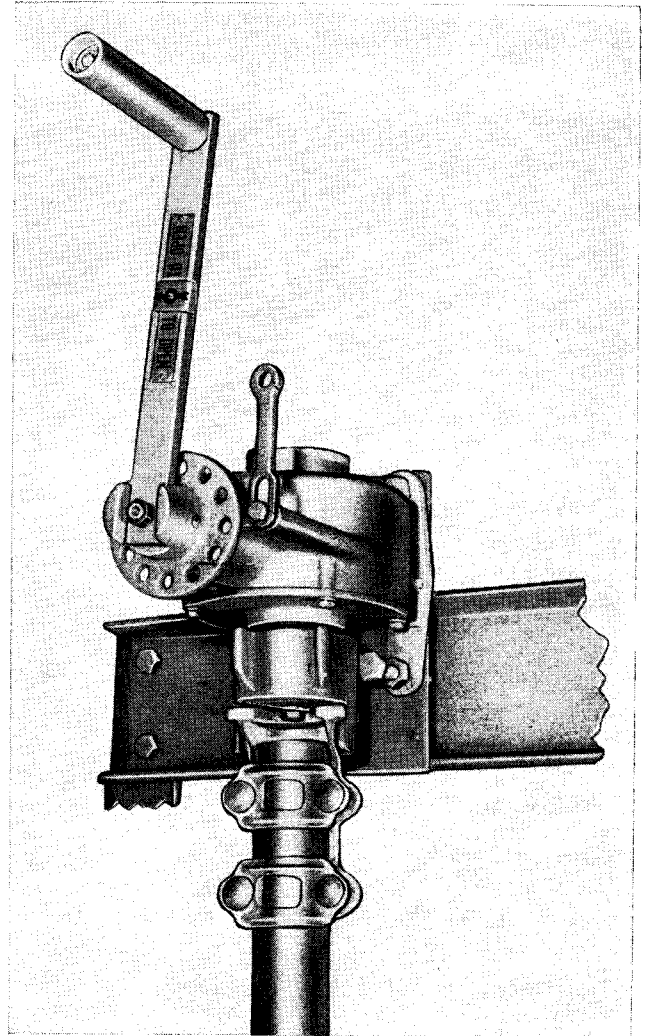
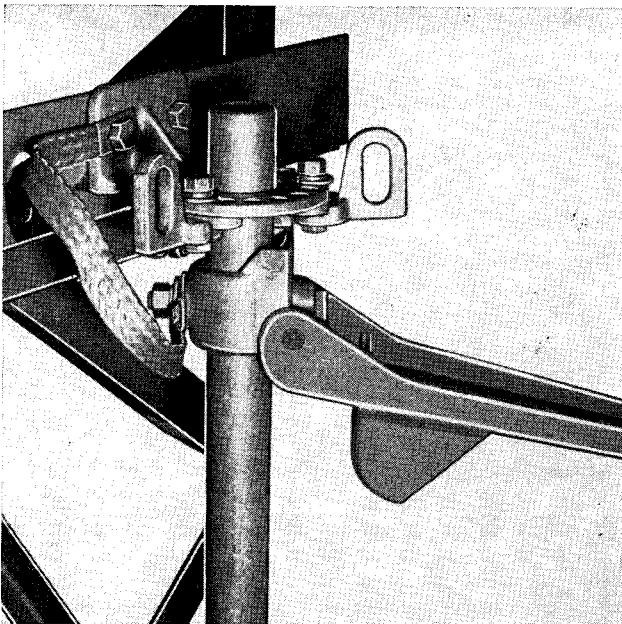

FIG. 10.
FIG. 11.
(5) Close the driven pole unit and observe the position of the outboard bearing lever. The lever should be in line or in toggle with the connecting pipe when the pole unit is fully closed. If the outboard bearing lever does not reach the toggle position when the pole unit is closed, the radius of the lever arm should be decreased slightly. If the lever passes the toggle position when the pole unit is closed, the radius of the lever arm should be increased slightly. If the radius of this lever arm is changed it is also necessary to reset the effective length of the connecting pipe. Small adjustments should be made in this manner until the outboard lever travels through 180 degrees and is in toggle in both the open and closed positions of the pole unit. After the correct setting is obtained, securely tighten the bolt holding the swivel assembly to the outboard bearing lever.
(6) Install the operating handle as shown in Fig. 10 or Fig. 11. Set the driven pole unit in the fully